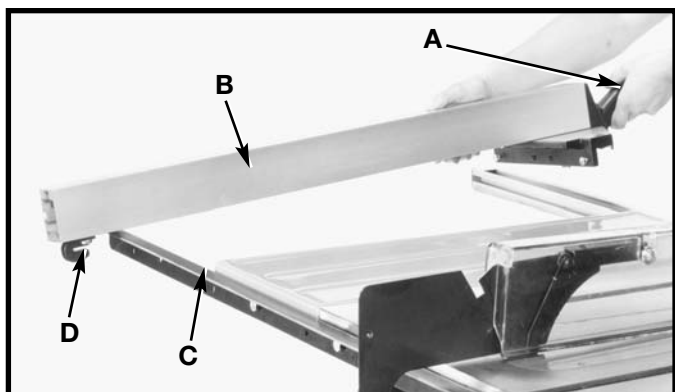

Fig. 49
1. With the fence handle (A) Fig. 49, in the raised position, place the rip fence (B) onto the rear guide rail (C) so the hooked end (D) fits over the top ledge of the guide rail.